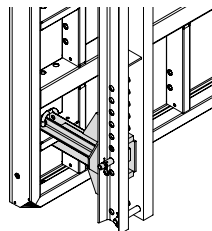

Fig. B2.14
- Connections are possible on horizontal and vertical panel struts through repositioning of the hook clamps, see C1 Horizontal Strut Connection. (Fig. B2.14 – B2.14c)
3. Place Strongback CB (4) on the connectors. Bottom projecting length: see Planning or C1.